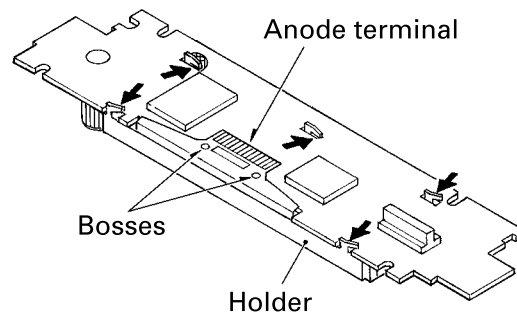

Fig.8
1. Apply hot air to the cable pins for the anode terminal using a blower used for removing a flat-packaged IC or something like that. When all the pins are peeling off from the PCB, pinch the cable with a pair of tweezers and remove it slowly from the PCB. (Fig.8)
2. Five tabs are extended until becoming straight in the direction of the arrow and then remove the Holder. (Fig.8)
6. Install the Holder. (Fig.8)
7. When soldering the flexible cable for the Anode terminal on the PCB, first, insert the Bosses on the PCB into the 2 holes in the flexible cable. Then, take the same procedures 2 and 3 as that for the Cathode terminal to solder the cable pins. (Fig.8)